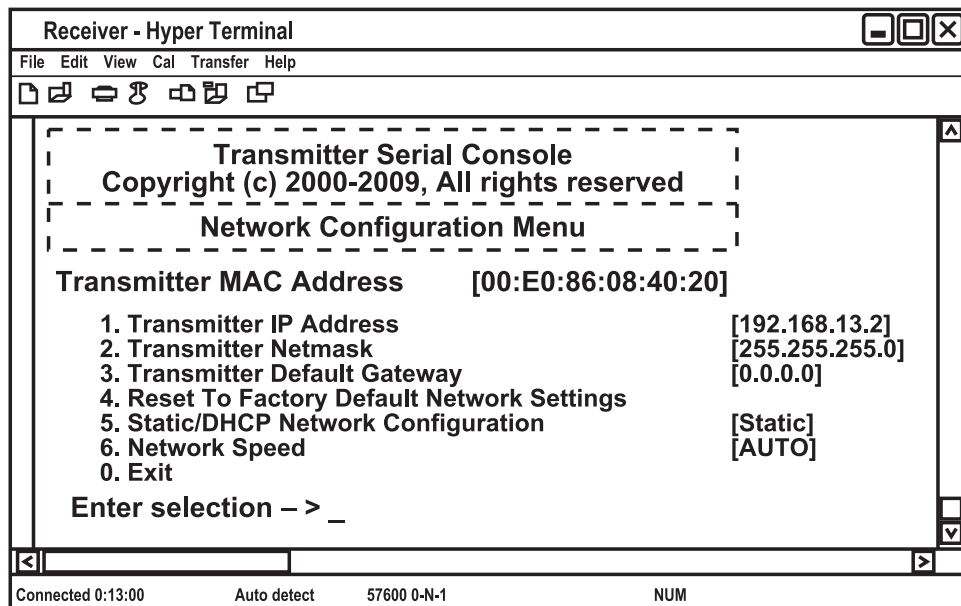

Figure 4-10. Transmitter Network Configuration Menu.
5. Press 1 to select the Transmitter Network Config option and press "Enter." (See Figure 4-10.)